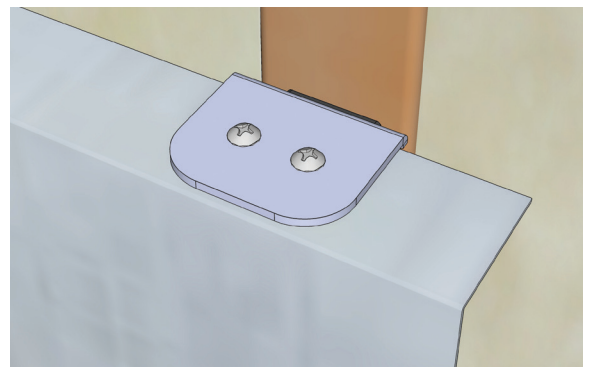

Figure 3
5. Secure track to **GenieClip Mount** with #10 x 1/2” sheet metal screws (**Fig. 3**).